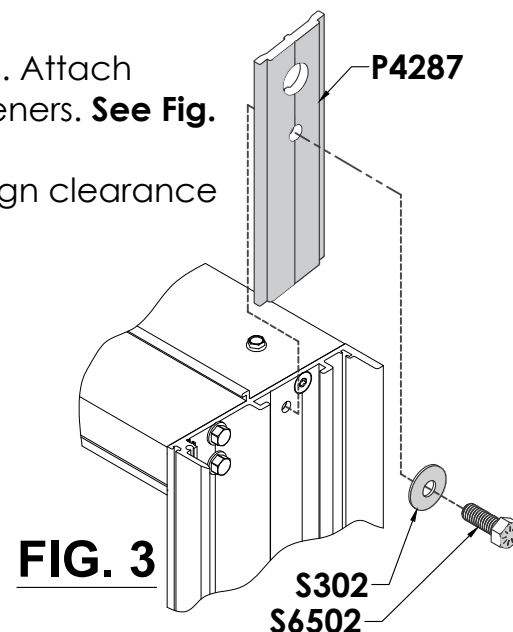

FIG. 3
- h. Insert Lifting Lug into a vertical member from the top, align clearance hole and fasten **S6502/S302** into **S301**. **See Fig. 3**